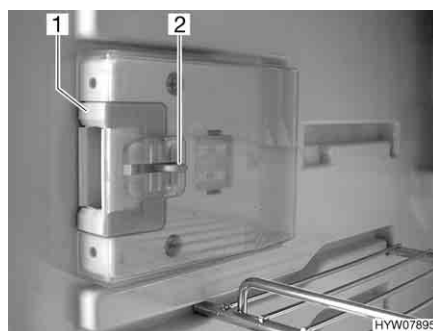
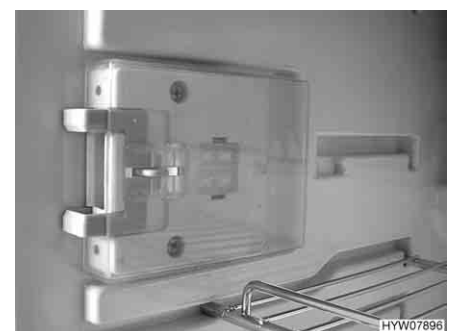

Fig. 225 Locking device in normal position
Fig. 226 Locking device in ventilation position
- Press down the unlocking device (Fig. 225,2).
- Push locking device (Fig. 225,1) forwards (Fig. 226).